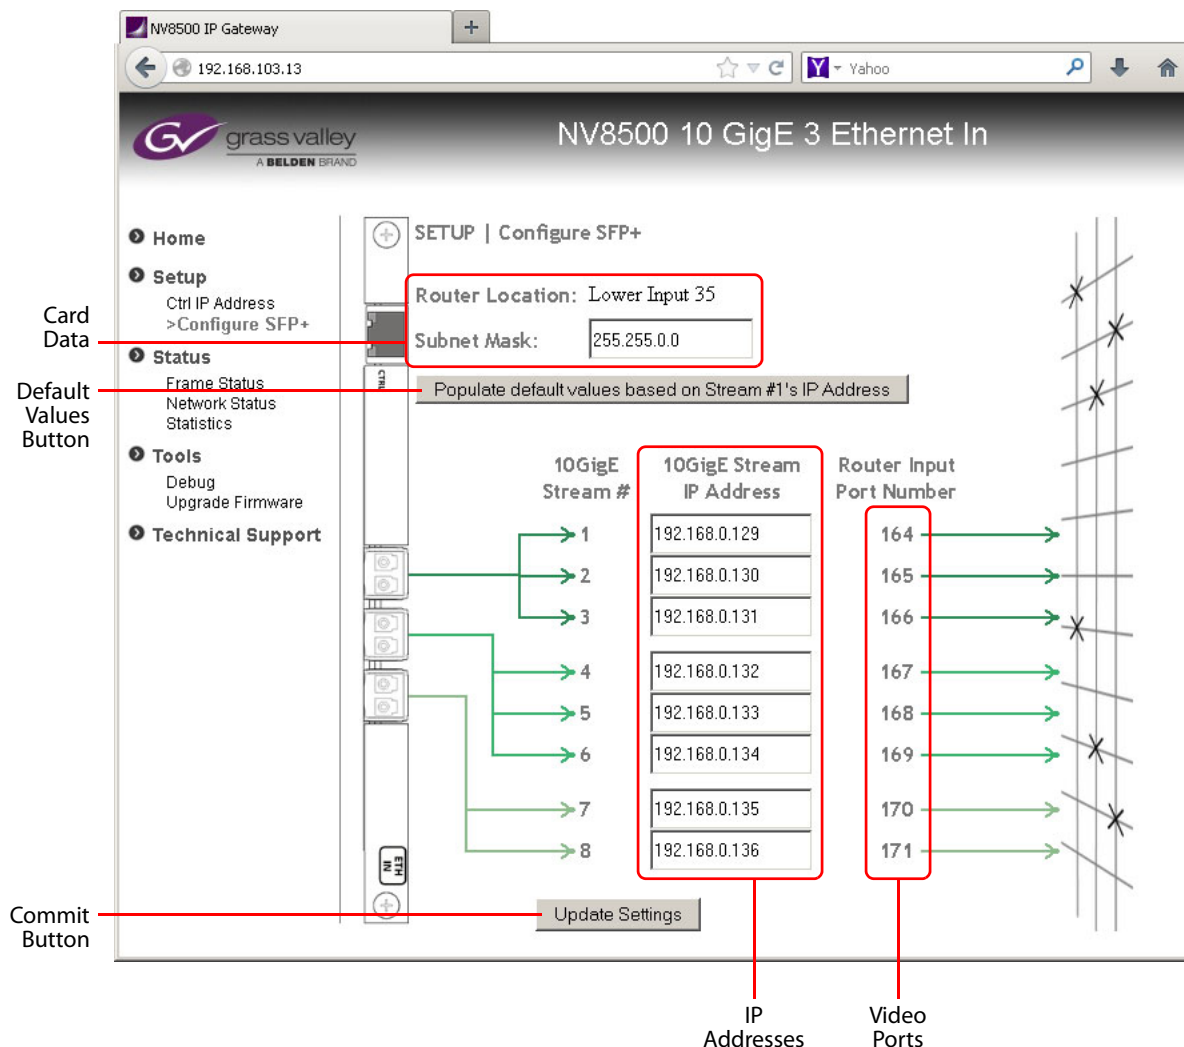

Fig. 11-4: 'Config SFP+' Page (Lower Bay)
- ▲ Note that the video port numbers are specific to the slot in which you have placed the input card. In Figure 11-3, input slot 3 has ports 19–26. In Figure 11-4, input slot 35 has ports 164–171.